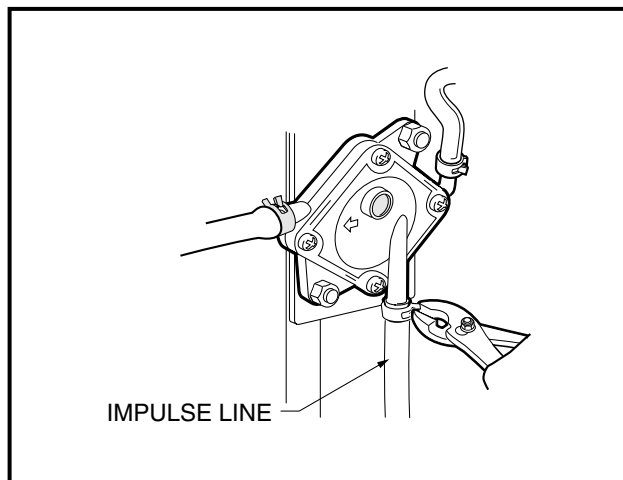

Figure 16-56 Impulse Line
30. Connect the impulse line to the fuel pump and secure with hose clamp (**Figure 16-56, Page 16-22**).